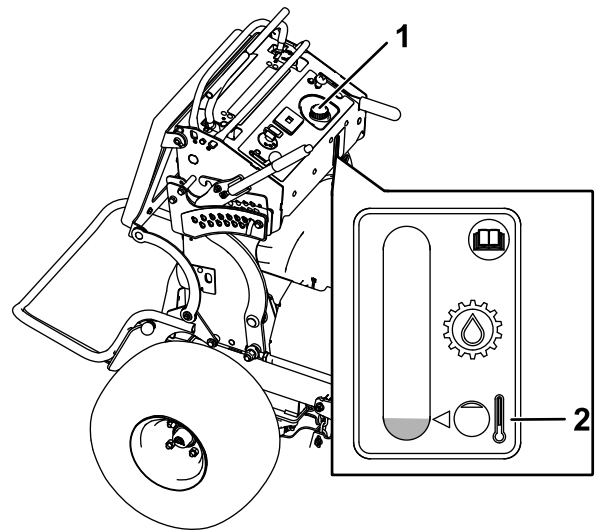

Figure 74
4. Clean the area around the cap and the filler neck of the hydraulic tank (Figure 74).
5. Remove the cap from the filler neck (Figure 74).